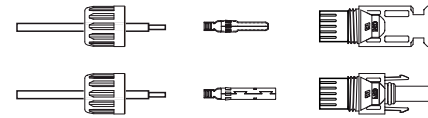

Figure 5.17 Disassemble the Connector Cap nut
1. Strip off the DC wire for about 7mm, disassemble the connector cap nut. (see Figure 5.17)